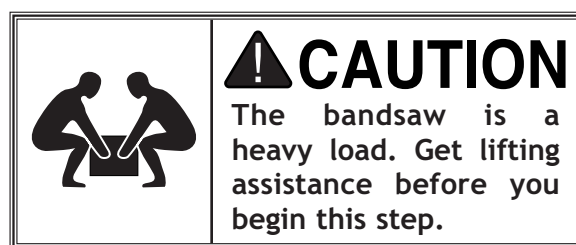

Figure 7. Bandsaw body mounted on the cabinet stand.
2. With the help of another person, carefully place the bandsaw body on the cabinet stand and align the mounting holes (see **Figure 7**).
3. Secure the bandsaw body to the cabinet with (4) $\frac{5}{16}$ "-18 x $1\frac{1}{2}$ " hex bolts, $\frac{5}{16}$ " lock washers, $\frac{5}{16}$ " flat washers, and $\frac{5}{16}$ -18 hex nuts.